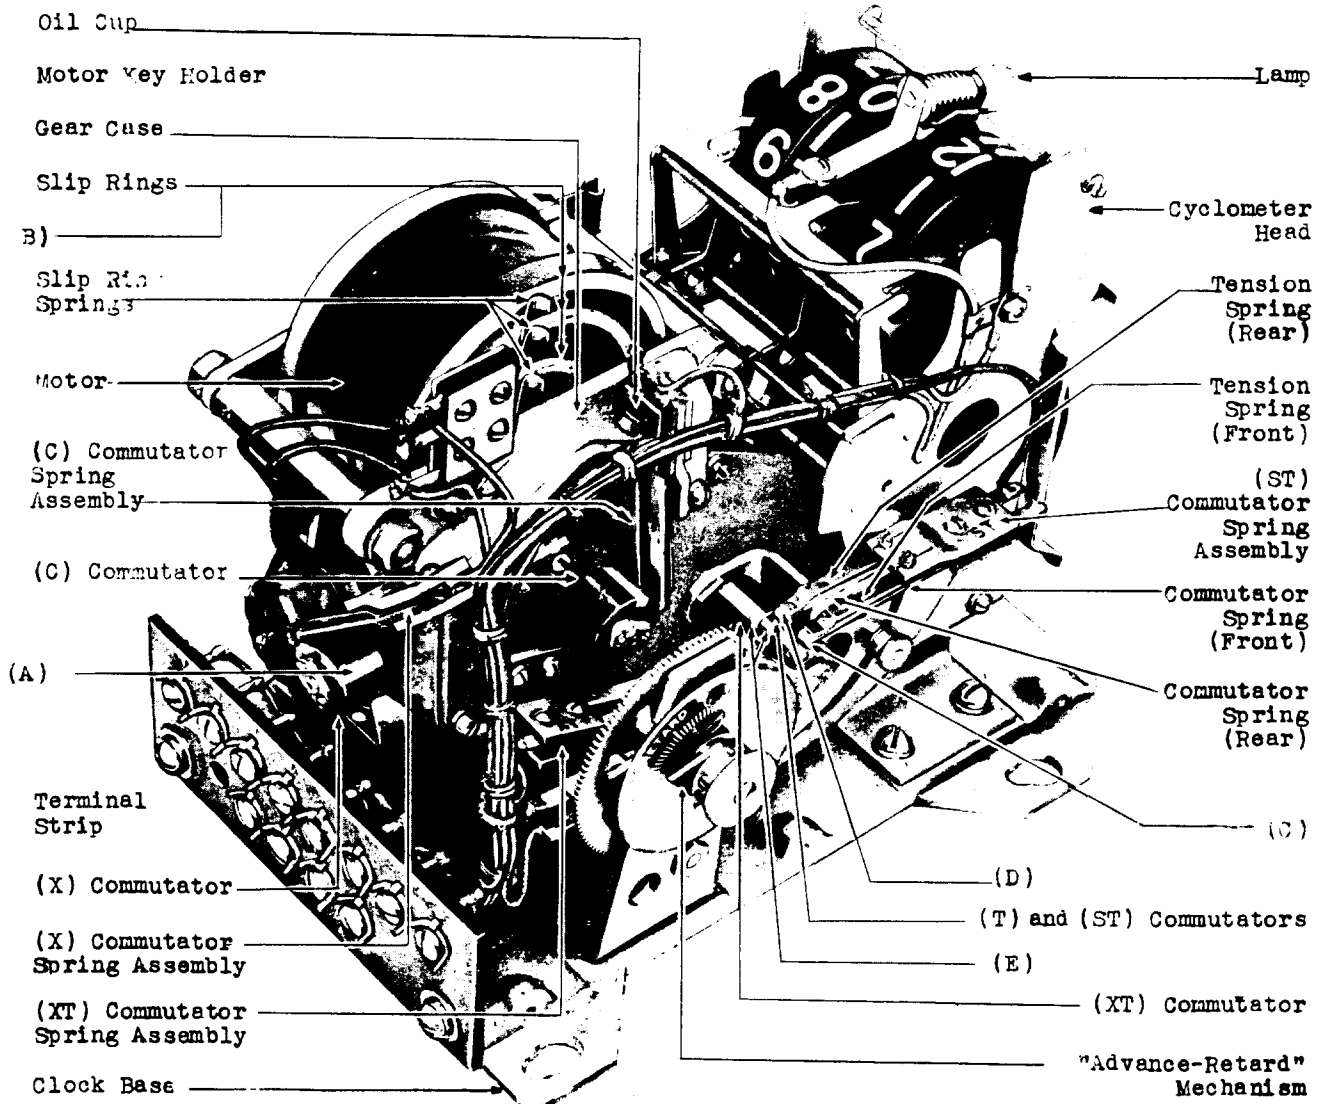

Fig. 1 - Illustrating Commutators and Commutator Spring Assemblies
- (a) The commutator (Fig. 1 (A)), and slip rings (Fig. 1 (B)) shall be adequately coated with a light coat of W.E. Co. 57997 petrolatum.
(a) Fig. 1 (C) - The commutator springs shall be so aligned that the contacting surfaces are wholly within the edges of the commutators. Gauge by eye.
(b) Fig. 1 (D) - The tension springs and their associated commutator springs shall be in approximate alignment with each other (within the thickness of the tension spring) across the width of the springs. Gauge by eye.
2.12 Alignment of (ST) and (XT) Commutator Segments - Fig. 1 (E):